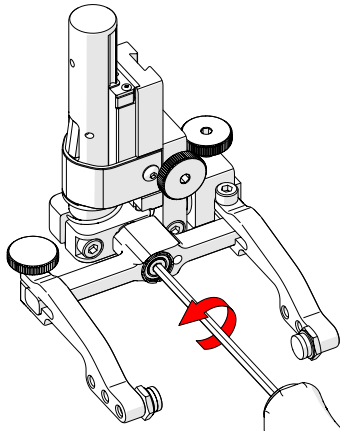

Fig. 75 - Unscrew yoke pivot screw
2. Using the supplied 3 mm hex driver (Fig. 14), unscrew the yoke pivot screw and remove the yoke (Fig. 75).